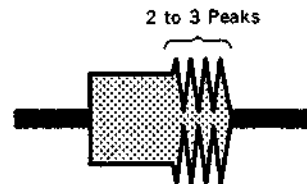

Fig. 2
(2) Check that the RF waveform at the exit side has 2 to 3 peaks in this condition. If not, adjust as follows. (fig. 2)